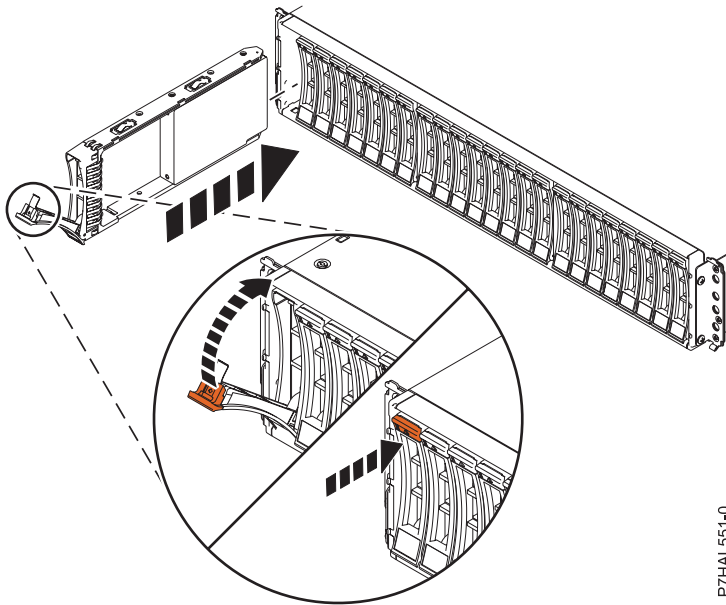

Figure 14. Installing the disk drive in the 5887 disk drive enclosure
1. With the handle in the unlocked position, see Figure 14 on page 24, support the bottom of the drive as you align it with the guide rails in the expansion unit.